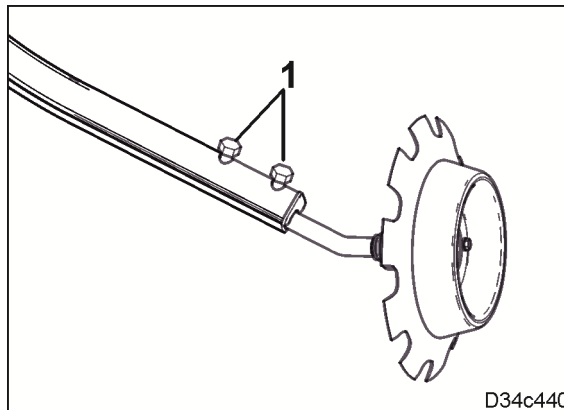

Fig. 152
4. Loosen the 2 bolts (Fig. 152/1).
7. Tighten up the screws (Fig. 152/1).